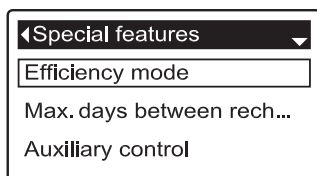

FIG. 69
5. Press the SELECT (O) button to display the Special features menu (See Figure 69).
9. Press the SELECT (O) button. The display will go back to the Special features menu (Figure 69).